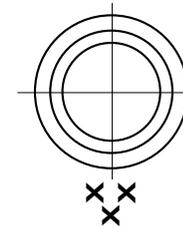

Fig. 5, point of impact, deep
Turning the vertical adjustment screw against the arrow direction (UP) results in a downward impact point shift on the target (Fig. 5).